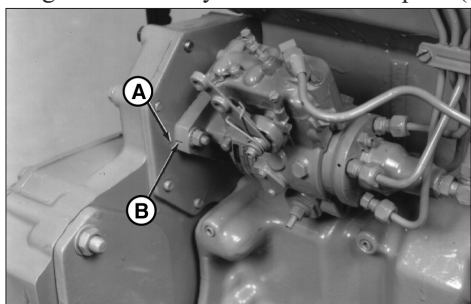

Figure 21 Reproduced by permission of Deere & Company, c.2004. Deere & Company, All rights reserved.
9. Align timing mark on the pump flange (Figure 21-B) with timing mark on the cylinder block front plate (A).